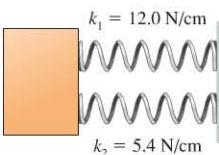

FIGURE P8.47
47. I Two springs have the same equilibrium length but different spring constants. They are arranged as shown in Figure P8.47, then a block is pushed against them, compressing both by 1.00 cm. With what net force do they push back on the block?